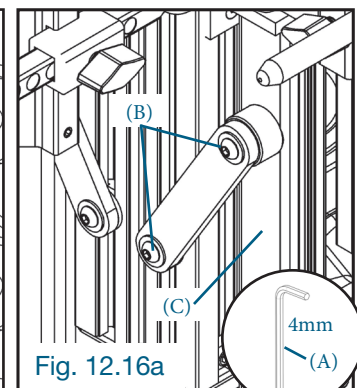

Fig. 12.16a
12.16 LEG ABDUCTION ADJUSTMENT Abduction Angle Adjustment (Fig. 12.16a)